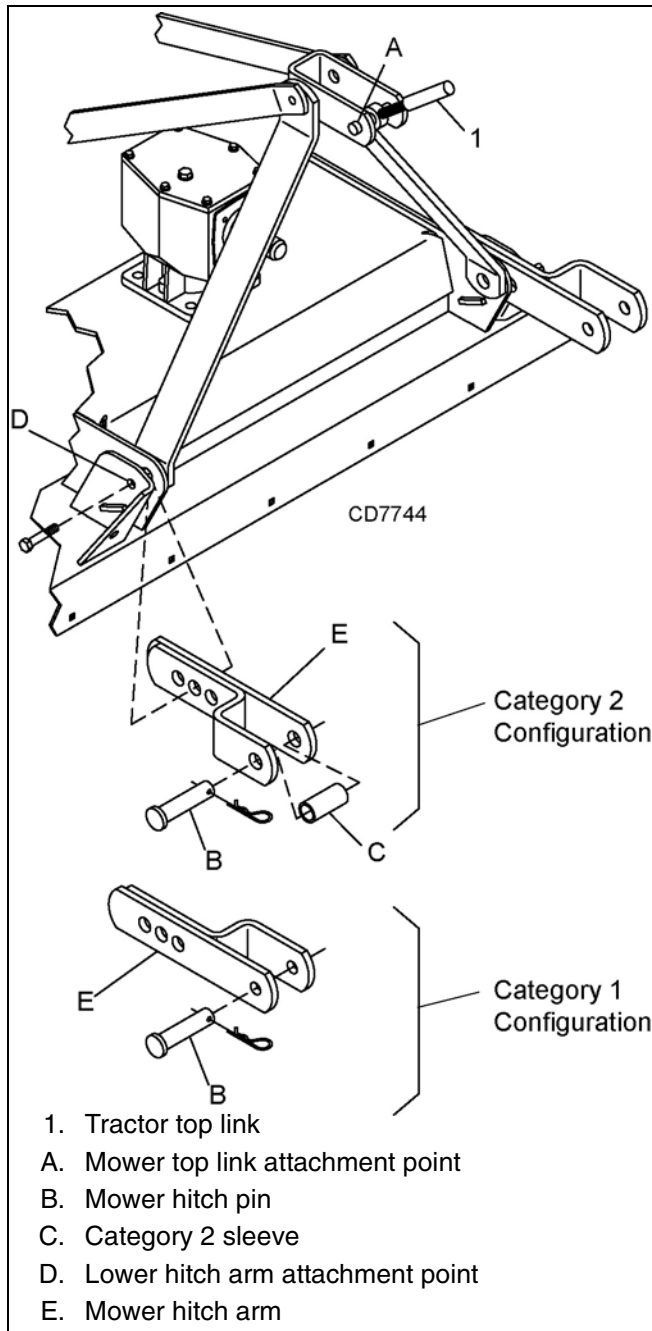

Figure 29. Hitch Arm Installation
1. Remove cap screws, lock nuts and hitch arms (E) from lower hitch arm attachment point (D).
2. Position arms according to Figure 29 and replace hardware.